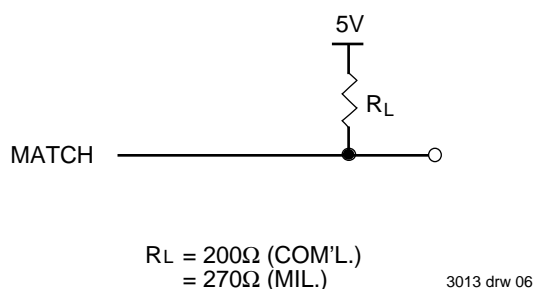

Figure 3. AC Test Load for MATCH
1. This parameter is guaranteed with the AC Load (Figure 3) by device characterization, but is not production tested.